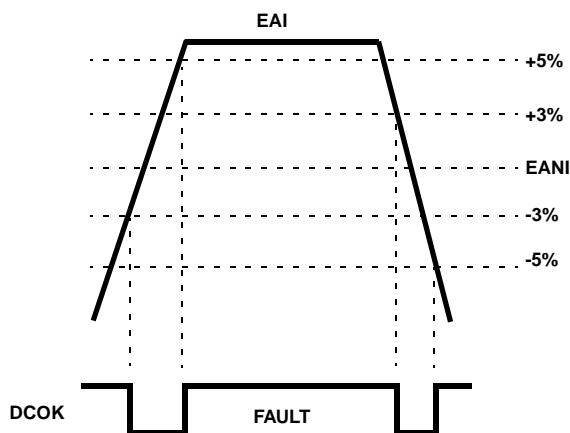

FIGURE 11. UNDERVOLTAGE-OVERTVOLTAGE WINDOW
- DCOK pin is an open drain output capable of sinking 5mA. It is low when the output voltage is within the UVOV window. The static regulation limit is $\pm 3\%$, while the $\pm 5\%$ is the dynamic regulation limit. It indicates power good when the EAI is within -3% to +5% on the rising edge and within +3% to -5% on the falling edge, as shown in Figure 11.